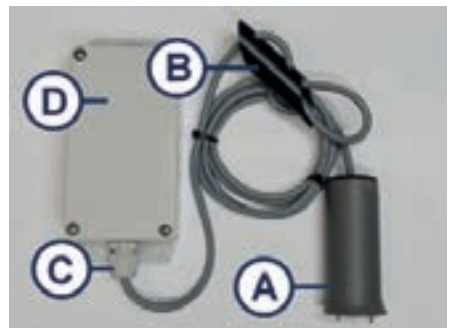

FIGURE 2
B. A receiver unit installed at any suitable location in the building giving audible and visible alarm. (Figure 2 and 3)